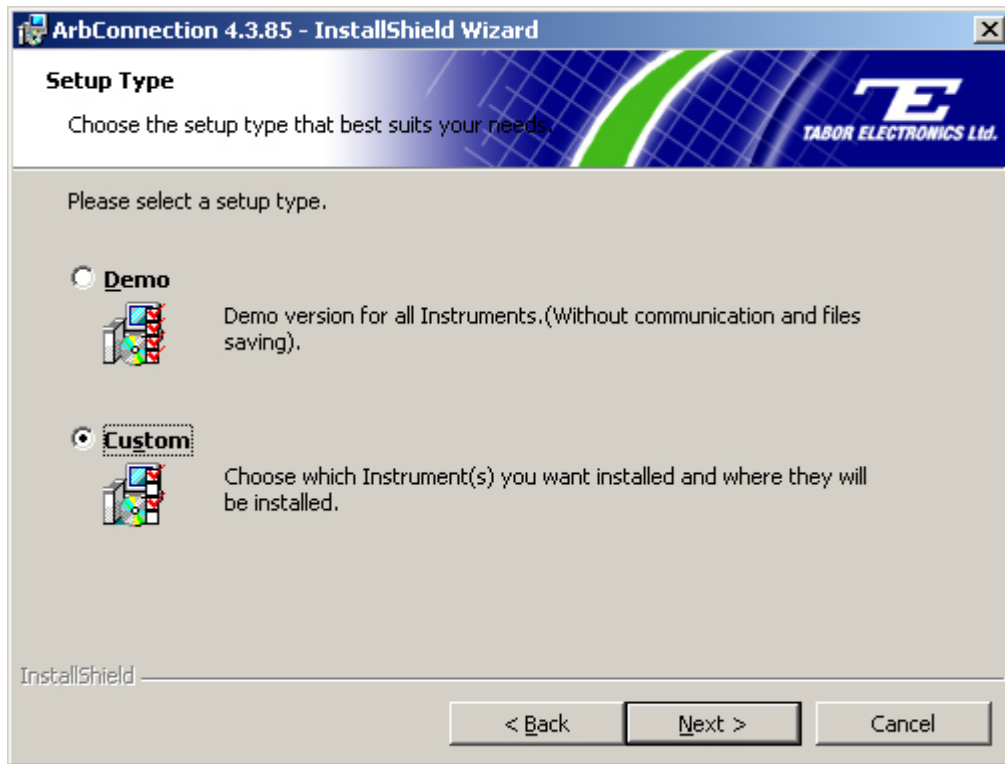

Figure 2-6: Custom Setup Selected
6. Choose “Custom” (Figure 2-6) if you are ready to start working with your new software. This option takes you to a screen where you choose which instrument(s) you would like to install.